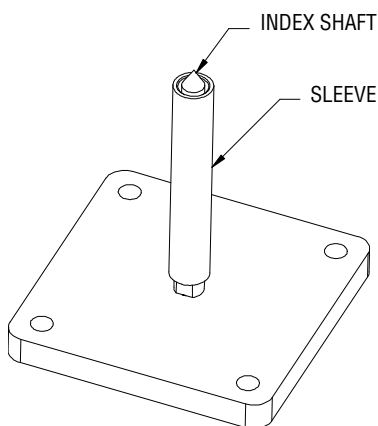

Figure 3: Sleeve Over Index Shaft
5. Select the appropriate sleeve and slide it over the index shaft. Refer to Figure 3.